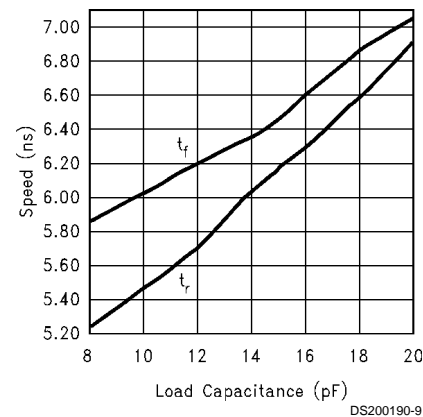

FIGURE 8. Speed vs Load Capacitance
*Figure 8* shows the effect of increased load capacitance on the speed of the device. This demonstrates the importance of knowing the load capacitance in the application. The rise time increased about 0.12nsec for an increase of 1pF in the load capacitance. The fall time increased about 0.10 nsec for a 1pF increase in the load capacitance.